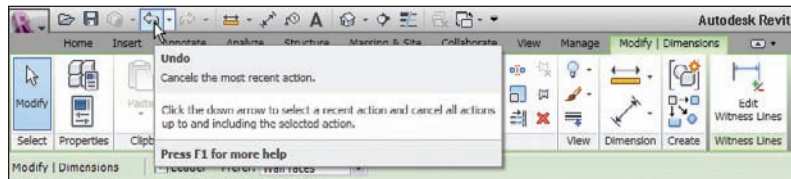

FIGURE 5.35 Click the Undo button.
7. Click the Undo button, as shown in Figure 5.35.